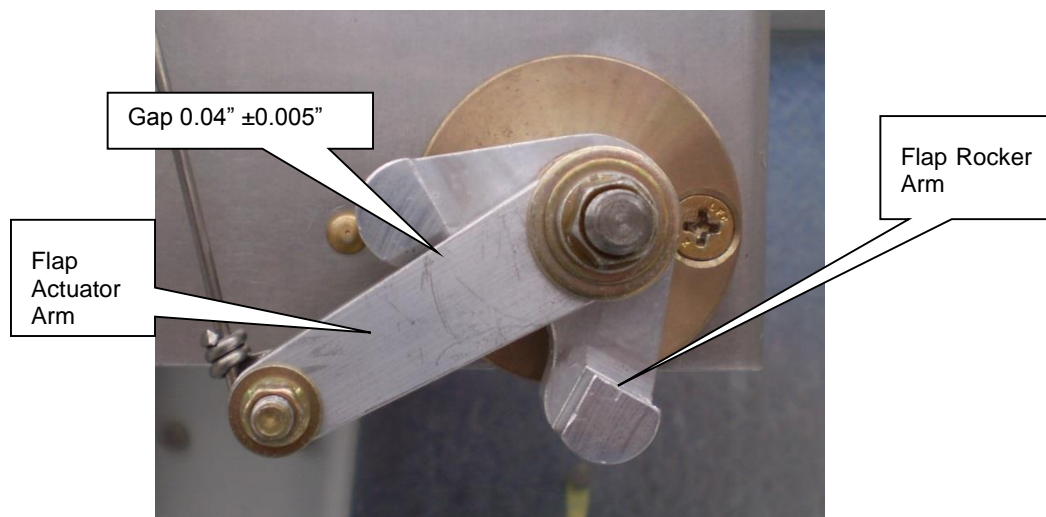

Figure 4
18. Install alternate air cable (Item 1). Push the alternate air knob in fully. Rotate the Flap Rocker Arm fully anti-clockwise when viewed looking at the airbox in the aft direction. The Flap Actuator Arm is to be set $0.040'' \pm 0.005''$ from the upper stop of the Flap Rocker Arm as shown in Figure 4. Adjustments can be made by loosening the Cable Clamp and sliding the cable out through the Clamp. Secure the cable with the Cable Clamp following any adjustment. Cycle the alternate air control from closed to open several times to ensure correct operation.